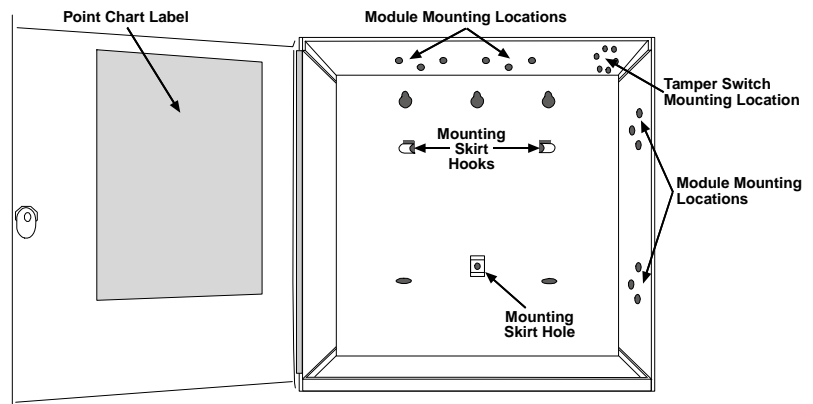

Figure 2: Mounting Enclosure
1. Align the D8128D with any of the four mounting locations in the enclosure (*Figure 2*).